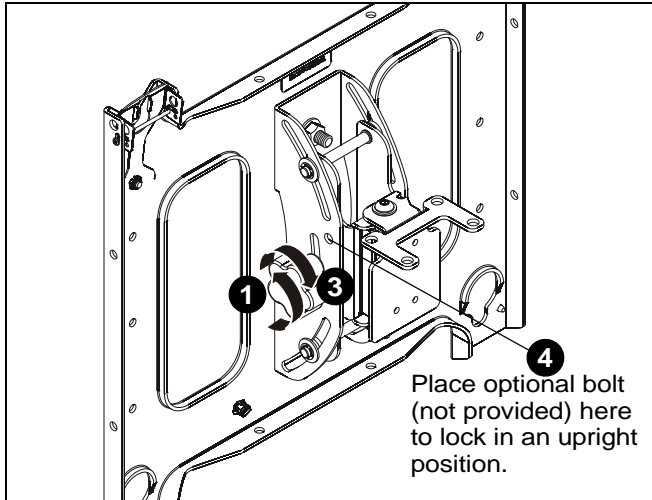

Figure 4
1. Turn knob counterclockwise on back of head assembly to loosen the tilt. (See Figure 4)
3. Turn knob clockwise to tighten display on head assembly. (See Figure 4)
recommended that a bolt (not provided) be placed through the head assembly (See Figure 4) to lock the display into the upright position.